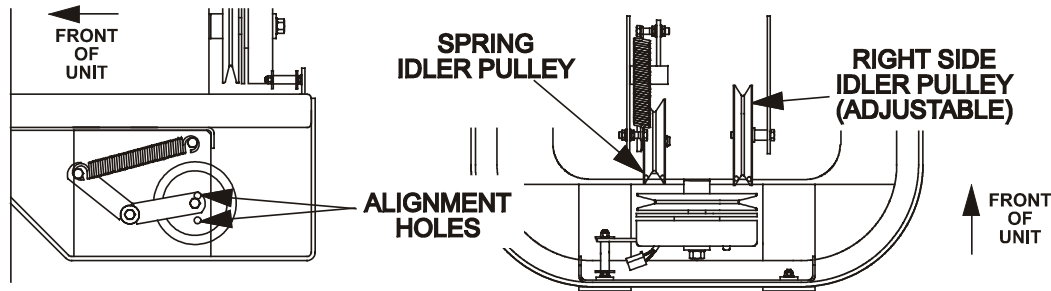

FIG. 12
- b) Check to make sure the center of the bolt head in the center of the spring loaded pulley, on left side engine deck support, is positioned between the centers of the two alignment holes in the left support plate (See Fig 12). It is necessary to adjust the belt tension when the center of the bolt head is at or below the center of the bottom alignment hole.